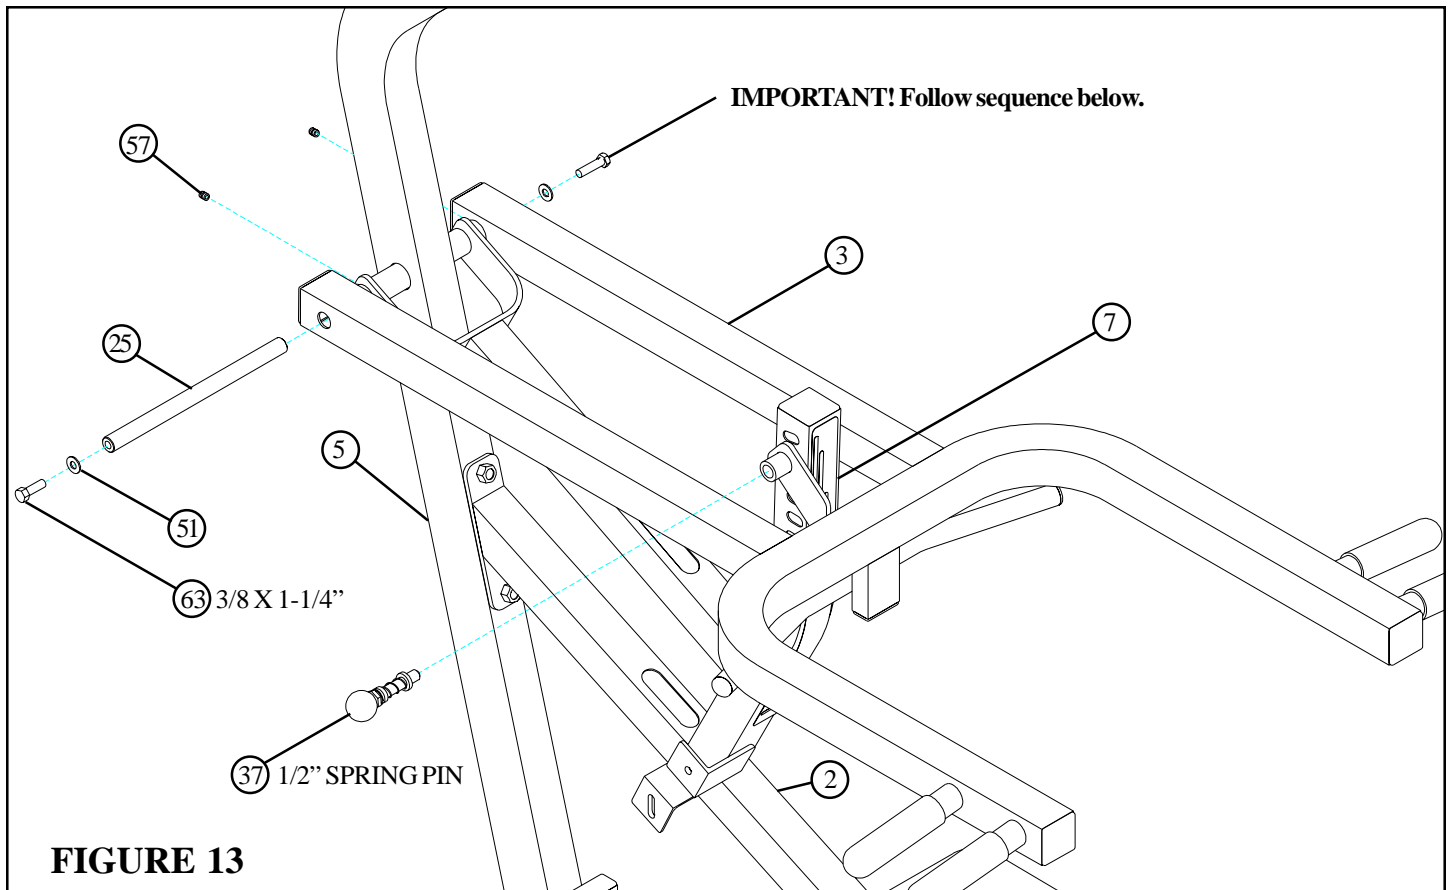

**FIGURE 12**
1. Center PRESS ARM (3) and PRESS ARM ADJUST (7) over the BENCH FRAME (2) and have someone firmly hold in place until sequence 3 is completed..
2. Assemble two 3/8 X 1-1/4" BOLTS (63) and two 3/8" WASHERS (51) to the 3/4" DIA X 11" SHAFT (25) as shown in FIGURE 12. **(NOTE: SIMULTANEOUSLY tighten bolts, then back nut off 1/4 turn to allow the PRESS ARM (3) to rotate freely.)**